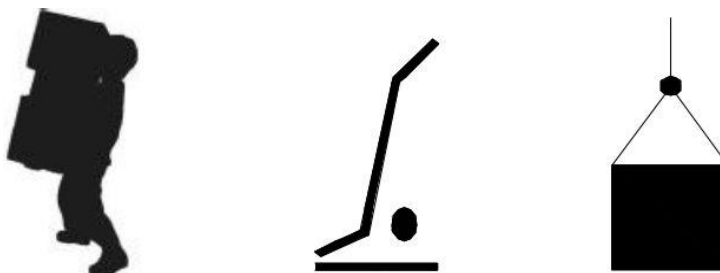

FIG 9-2
3. Product handling, generally using portable, car handling and lifting and moving, as shown in the figure 9-2